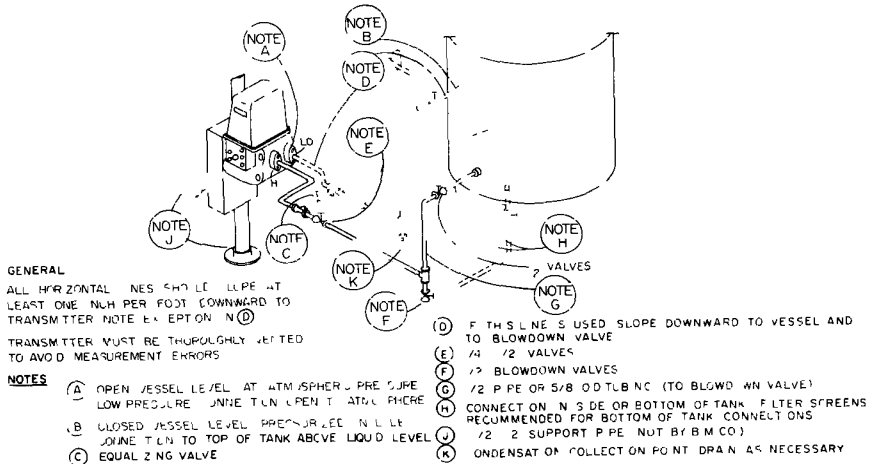

FIGURE 5 Connecting Piping for Type BK Transmitter Open or Closed Tank, Noncondensing Atmosphere
B SEE FIGURES 5 THRU 9
1. Make certain that all connecting tubing is correctly installed (Figures 5 thru 9) and that all valves are closed.
3. Open equalizing valve (C) in pressure line to Transmitter (Some level applications on open or closed tanks with noncondensing atmospheres may not use an equalizing valve. In this case, ignore reference to equalizing valve and LO pressure piping in following procedure).
Follow the procedure below to blow down connecting lines if installation does not include blowdown piping. Refer to Figures 5, 6, or 7 as applicable
1. Refer to Figure 5. Close instrument valve (E)
2. Open blowdown valve (F) slowly to prevent sudden strain on connecting line. Allow to blow a sufficient length of time to clear line (usually not more than 15 seconds is required). Close blowdown valve.
3. Slowly open shutoff valve (E). Transmitter should respond immediately.